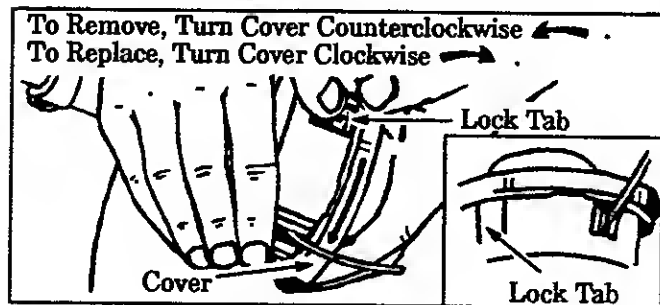

Figure 21
- a. Hold the Trimmer Head as shown in Figure 21 . Press the Lock Tab and turn Cover counter-clockwise.
- Turn Cover clockwise. Figure 21.